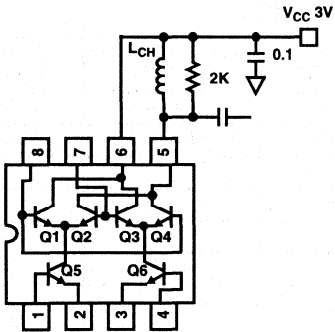
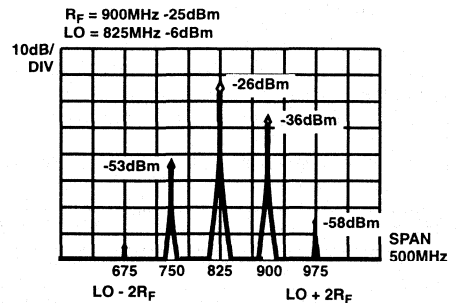

FIGURE 11. OUTPUT PORT S22 TEST SET UP
FIGURE 16. TYPICAL OUT OF BAND OUTPUT SPECTRUM
The evaluation of the HFA3101 in a mixer configuration is presented in Figures 11 to Figure 16, Table 1 and Table 2. The layout is depicted in Figure 10.
**TABLE 3. TYPICAL VALUES OF S22 FOR THE OUTPUT PORT. LCH = 390nH IBIAS = 8mA (SET UP OF FIGURE 11)**